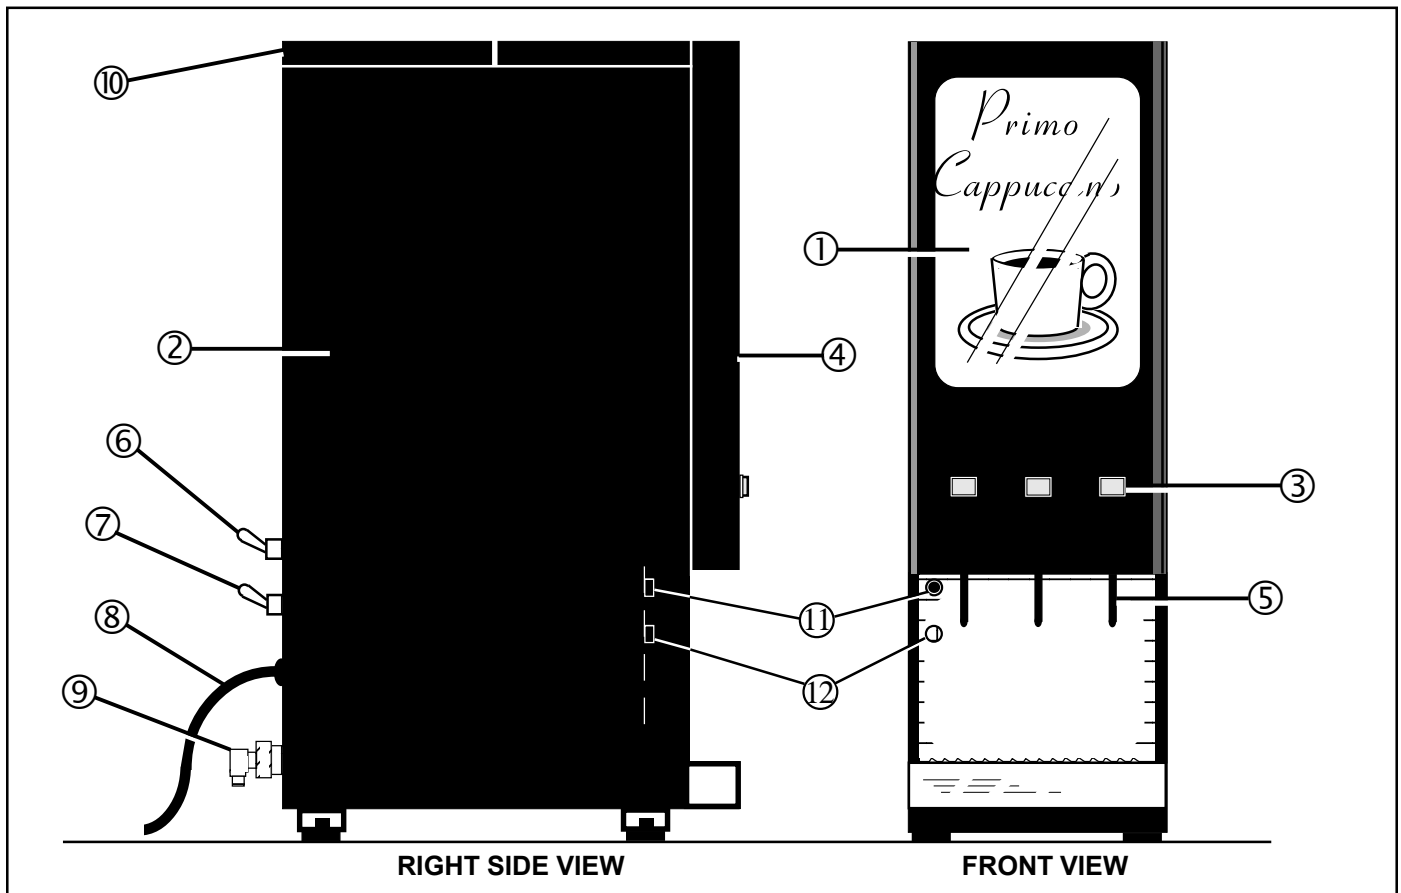

Figure 1. Location of Components on the Primo Cappuccino. PC-3 Shown, Others Similar.
Refer to figure 1. for index numbers ( ) in this section. Primo Cappuccino machines are shipped with the power cord connected inside the machine. The power cord (8) ends with a standard 3 pronged 120V plug. Check the serial plate on the side of the machine to make sure of the electrical requirements for your unit.
- C. Open the front door of the machine and locate the rinse switch (item 11, figure 1.).